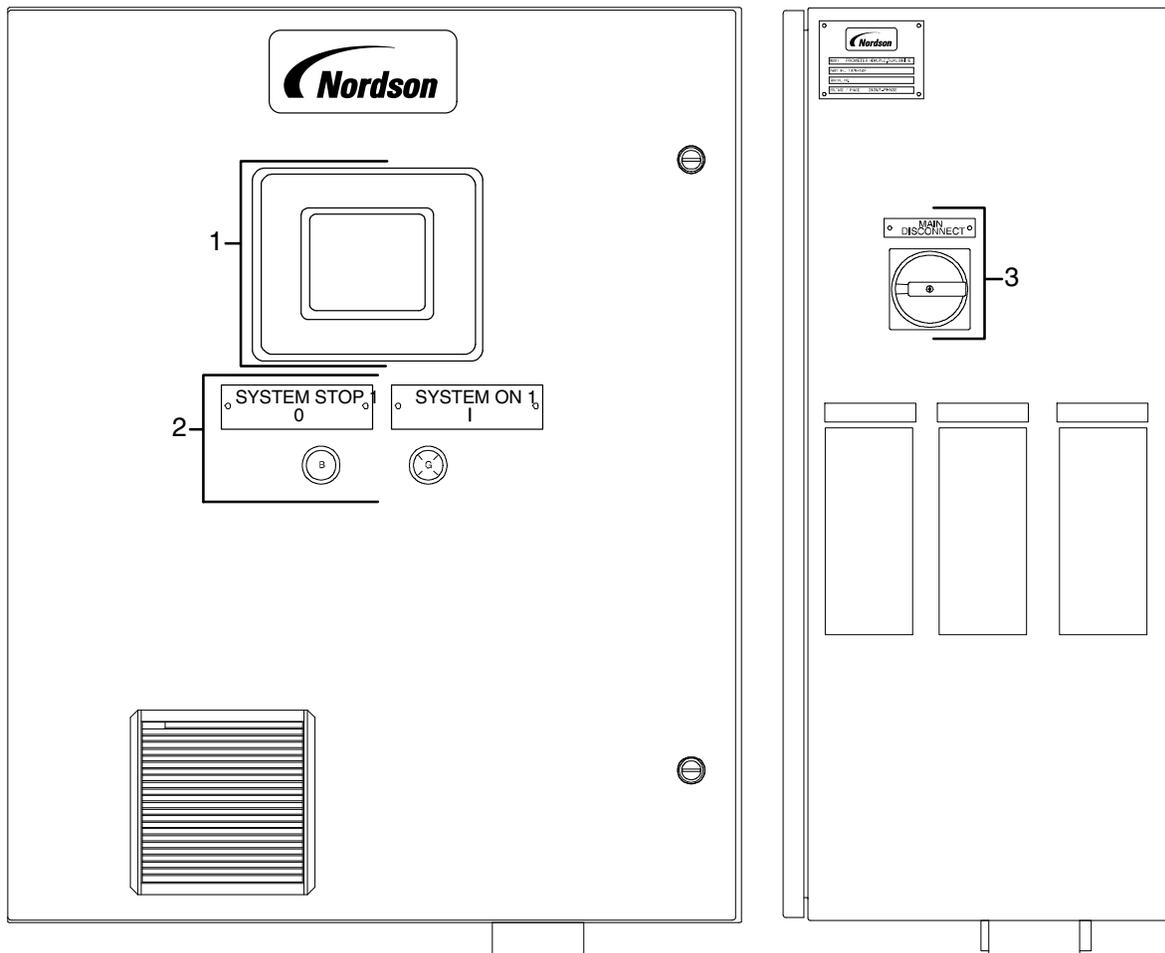

Figure 15 Pro-Meter VDK controller controls and touch screen panel
1. See Figure 15. Place the MAIN DISCONNECT switch in the ON position.